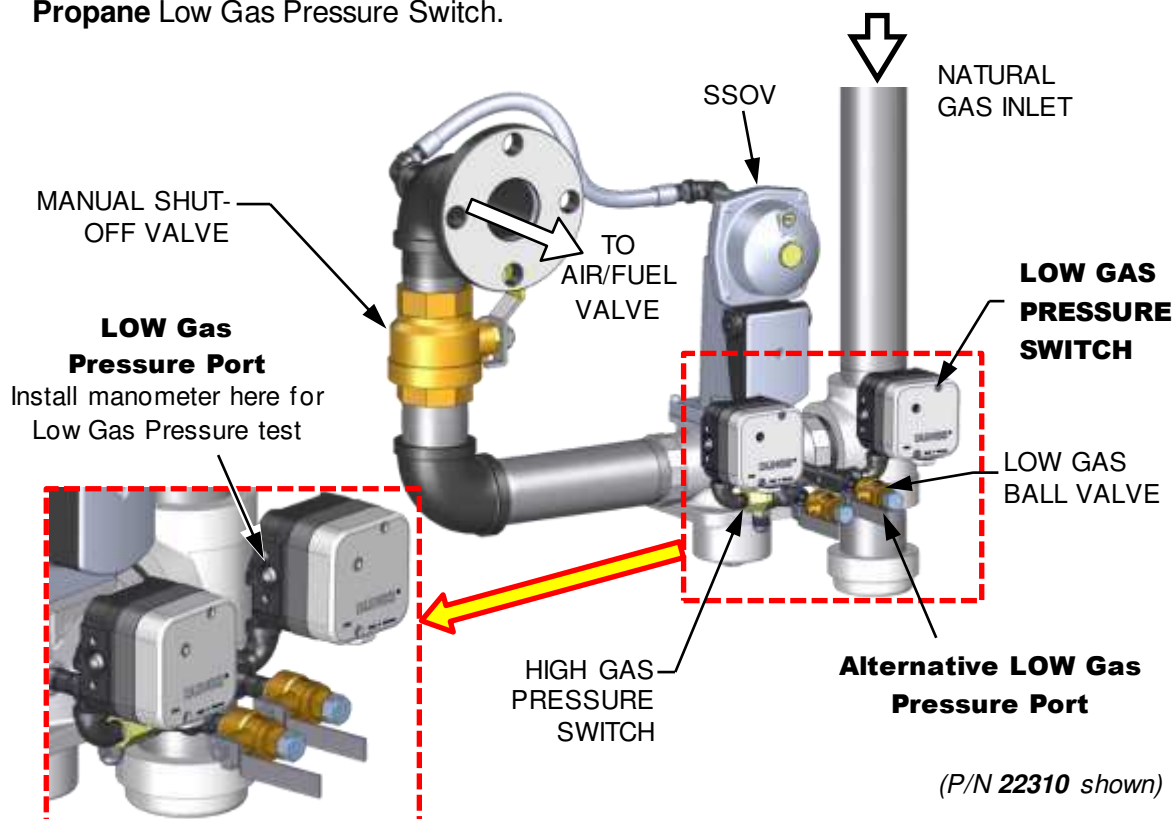

Figure 5-2a: – BMK3000 LOW and HIGH Gas Pressure Test Components
To simulate a low gas pressure fault on BMK3000 – 6000 units, refer to Figure 5-2a–5-2c, below, and perform the following steps:
3. Locate the port on the top of the Low Gas Pressure switch and loosen the screw inside a few turns to open it. **Do not remove this screw completely.** Alternatively, you can remove the 1/4-inch plug shown in Figure 5-2a and 5-2b and install a hose barb fitting in that location.